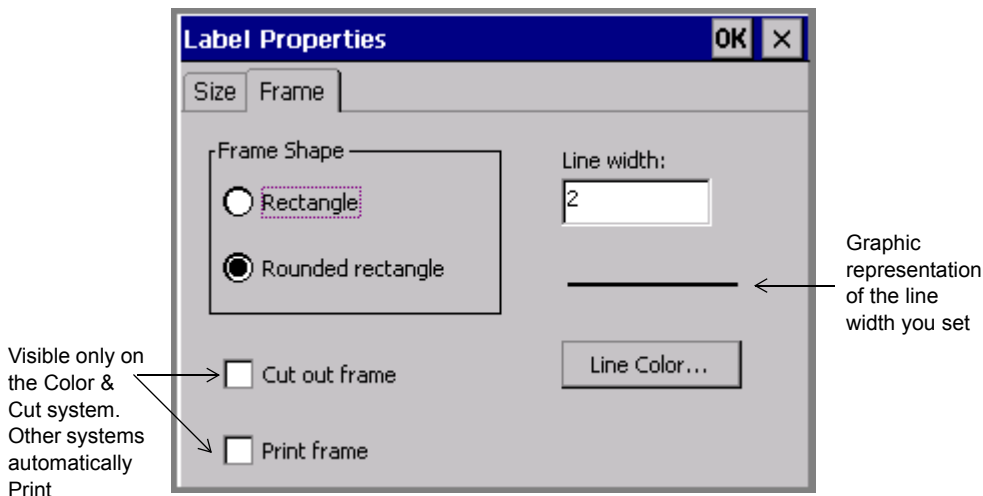

Figure 6-16. The Label Properties screen, Frame tab.
- **Frame**, for adding frames to your labels (Figure 6-16)